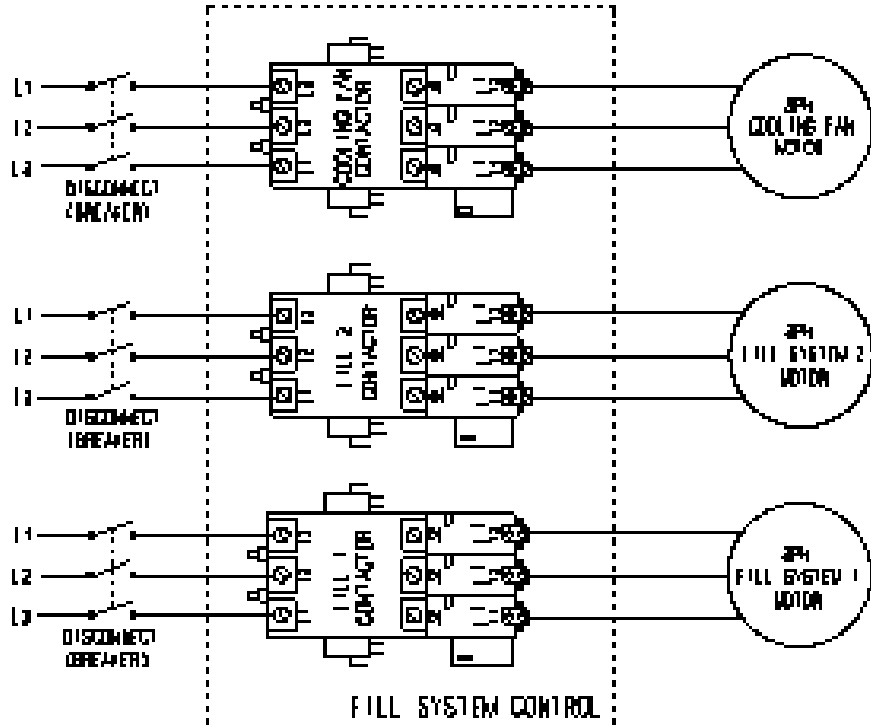

Figure 11.
4. Make connections for main power on top side of contactors (L1,L2) as shown in Figure 11.
6. Make connections for motors on bottom side of contactors (T1,T2) as shown in Figure 11.
2. Make connections for main power on top side of contactors (L1,L2) as shown in Figure 11.
4. Make connections for motors on bottom side of contactors (T1,T2) as shown in Figure 11.